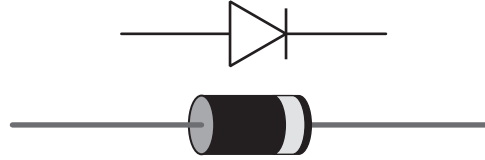

Figure 1.44: Cathode of diode is shown with a black strip.
3. the red probe is connected to the anode of diode under test and the black probe is connected to the cathode of diode under test. The cathode of diodes generally is shown with a black strip on the body of diode (Fig. 1.44); and